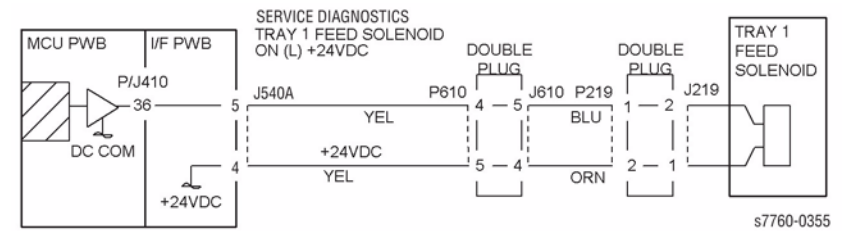
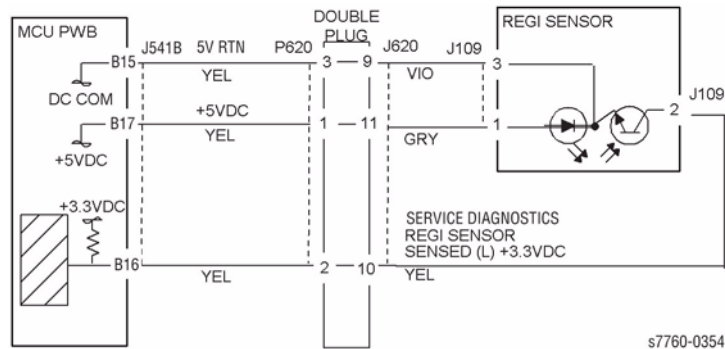

Figure 2 008-175 Tray 1 (MPT) Feed Solenoid
Figure 1 008-175 Registration Sensor
- Check the circuit of the Tray 1 Feed Solenoid (Figure 2). Refer to Section 2, **OF 99-4 RAP** for troubleshooting procedure.
- Ensure that the connectors shown in the circuit diagrams (Figure 1, Figure 2) are securely connected and that the wires are not damaged.